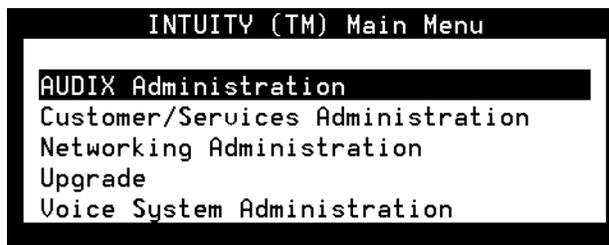

Figure 5-1. Lucent INTUITY Main Menu
- a. Start at the Lucent INTUITY Main Menu (Figure 5-1).
- a. Starting at the Lucent INTUITY Main menu (Figure 5-1), select